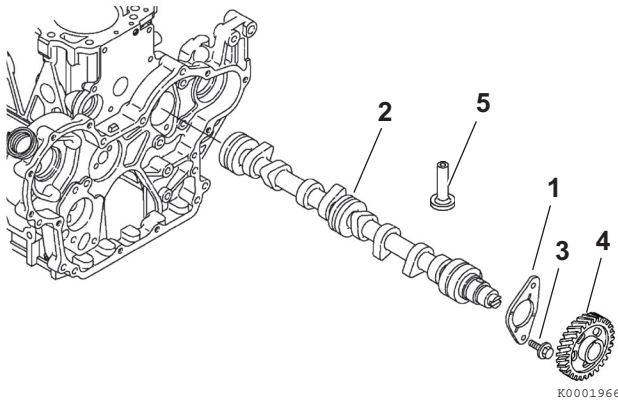

Figure 6-51
- Remove the two bolts (**Figure 6-51, (3)**) retaining the camshaft thrust plate (**Figure 6-51, (1)**).
- Rotate the engine in the engine stand so that gravity causes the tappets (**Figure 6-51, (5)**) to drop away from the camshaft lobes.
- Slowly pull the camshaft (**Figure 6-51, (2)**) assembly out of the engine being careful not to damage the front camshaft bushing.
- Remove the camshaft drive gear (**Figure 6-51, (4)**) only if the gear or camshaft require replacement. Use a knife-edge puller and a press to remove the gear. The gear is a shrink-fit and will need to be heated to 356 - 392 °F (180 - 200 °C) to remove.